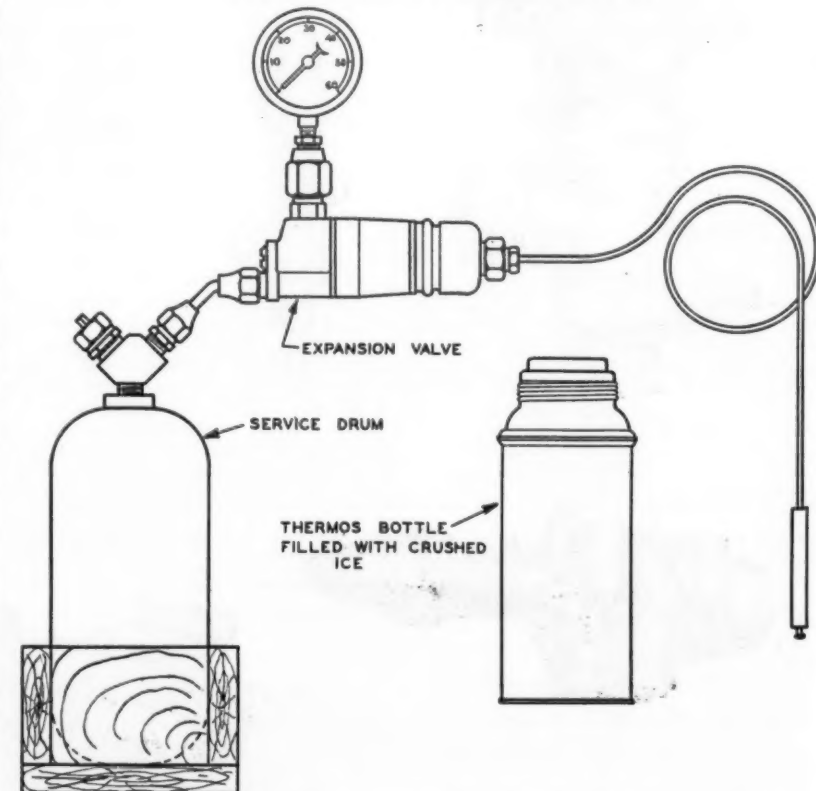

Fig. 4—Set-up for testing expansion valves, showing method of hooking-up equipment and materials needed.
1. As shown in Fig. 4, connect the inlet of the valve to a service drum containing Freon or methyl chloride. (If clean dry air is available at 75 to 150 lbs. pressure it can be used in place of the service drum.)